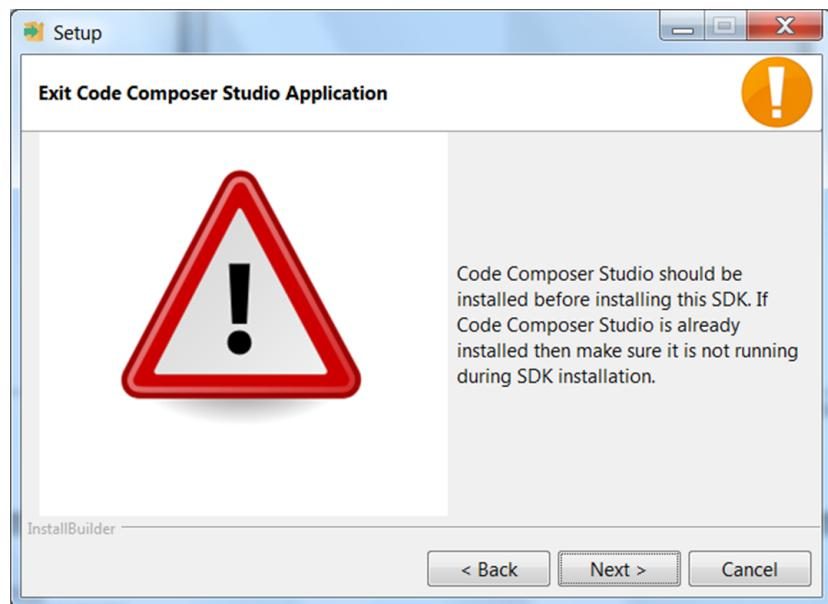

Figure 20. Warning Message to Close CCS
Step 7. Ensure all running instances of CCS are closed (see Figure 20).